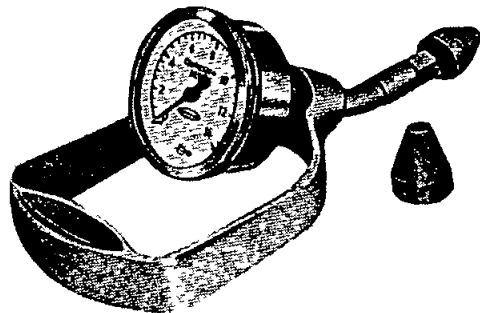

Fig. 1 Compression Gauge
- (1) Check the cooling water water level and extent of filthiness.
- (2) Inspect the battery all connections, level of electrolyte, specific gravity of electrolyte and voltage.
- (3) Inspect the oil amount, filthiness, classification and viscosity.
- (4) Cleaning of spark plugs and adjustment of their gaps.
- (5) Measurement of compression pressure of cylinders. The standard compression pressure of the engine is approx. 163 lbs. per. sq. in. at 350 r. p. m. Measurement of pressure is made in the following manner (see Fig. 1) First, warm up the engine (temperature of cooling water, 70-80°C) then remove all spark plugs and pull out the throttle knob all the way (that is in the carburetor, the throttle valve and choke valve are fully opened), press a compression gauge against each spark plug hole, and, running the starter motor with a fully charged battery, read the maximum pressure obtained within 5 - 8 rotations of the motor. This measurement must be made as quickly as possible.